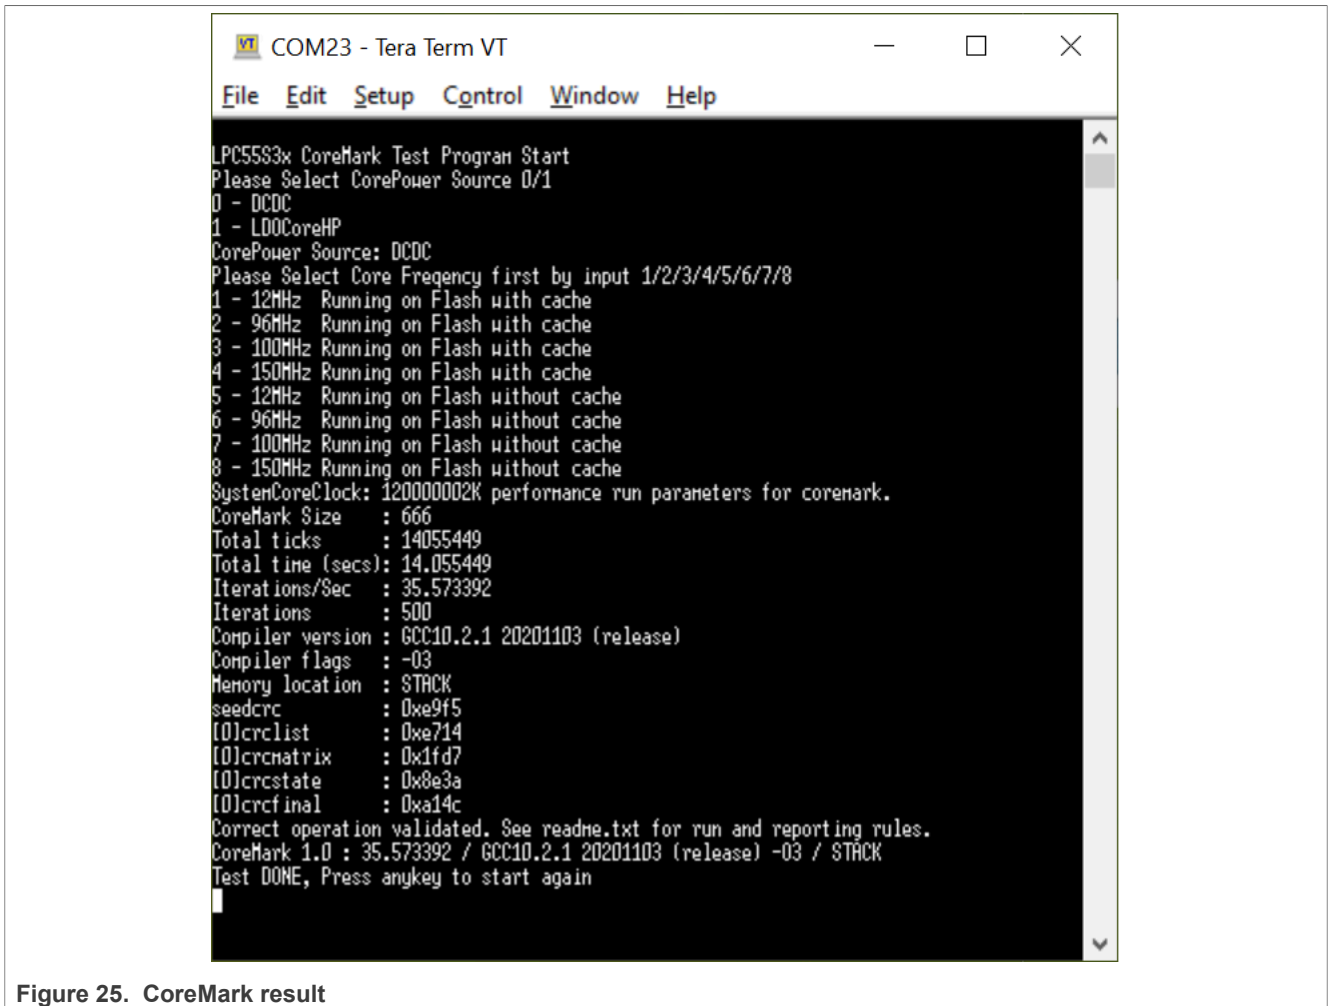
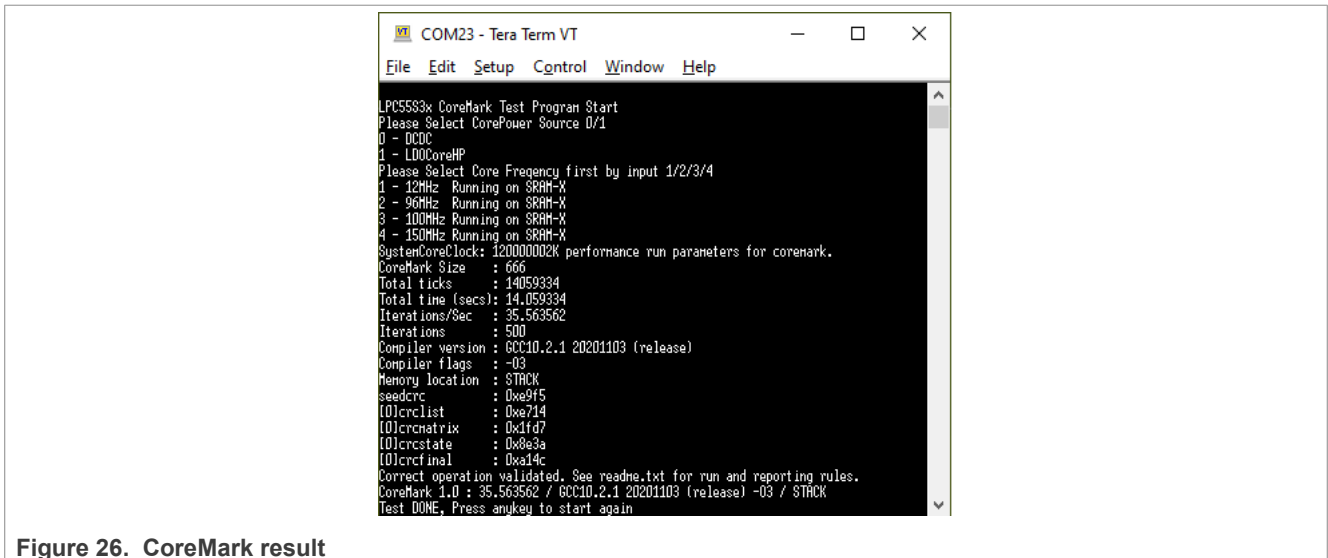

Figure 25. CoreMark result
Figure 26. CoreMark result
- The CeMark benchmark prints on the terminal after a few seconds, as shown in Figure 25.
Figure 25 and Figure 26 show the CoreMark benchmark result when running LPC553x/LPC55S3x at 12 MHz core frequency in the MCUXpresso IDE. The CoreMark benchmark score is the number of iterations per second. The CoreMark/MHz score executing from an internal flash for this run is  $35.573392/12 \text{ MHz} = 2.964 \text{ CoreMark/MHz}$ .